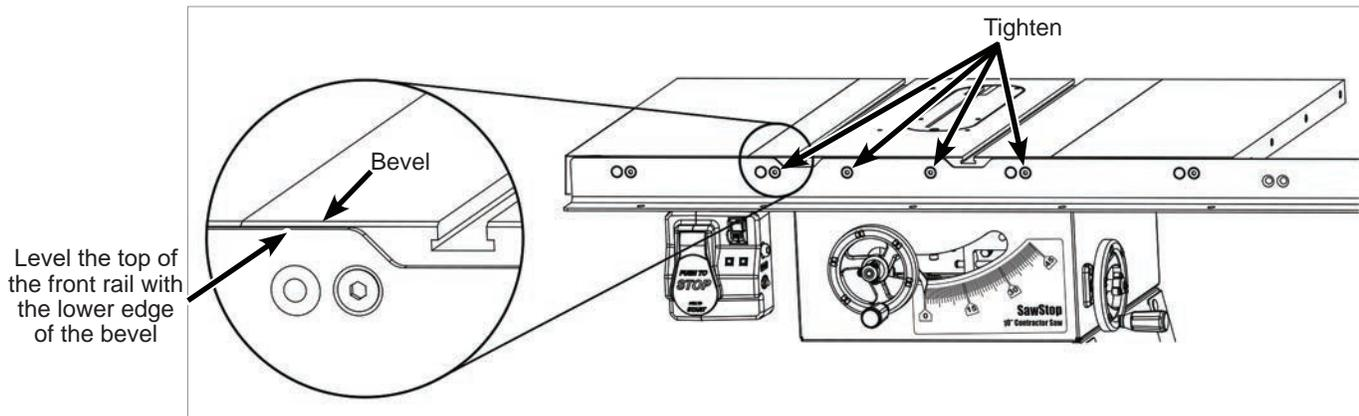

Fig. 11
3. The holes in the front edge of the table and extension wings are slightly larger than the bolts they receive to allow you to level the front rail and extension wings to the table top. Align the top of the front rail with the lower edge of the bevel on the front edge of the table top (See Fig. 11). Use a 5 mm hex key and a 13 mm wrench to fully tighten the nuts on the back of the four bolts that extend through the table top. Do not tighten the nuts on the bolts that extend through the extension wings.